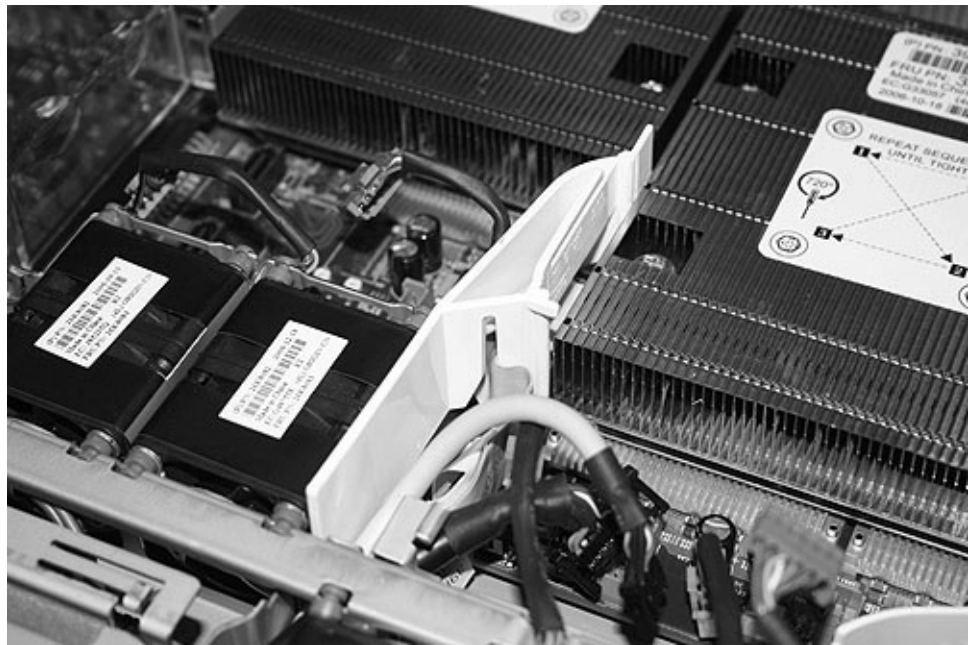

Figure 291. Left air baffle on the SAN Volume Controller 2145-8G4
11. Replace the left air baffle, which is shown in Figure 291 on page 309. You must position the CD-RW cable within the baffle.